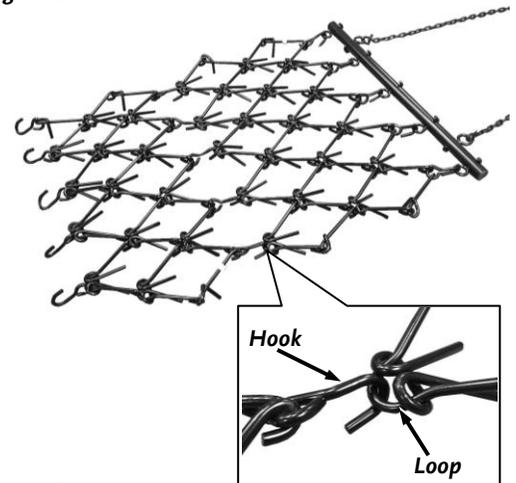

Figure 3
3. Attach Chain Section 2 to Chain Section 1 by connecting the Hooks of Chain Section 2 to the end loops of Chain Section 1 (Figure 3). Ensure that all of the Harrow Stakes are facing the same direction.